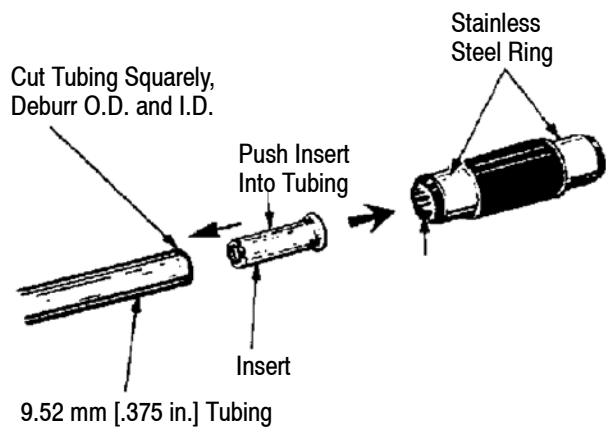

Figure 2
1. Cut tubing squarely. See Figure 2.
3. Push the insert, supplied with the fitting, into the tubing end and then push the tubing fully into the fitting. See Figure 2.